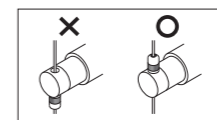

Fig.1
- Make sure the gripper is correctly aligned. Ceiling-mounted grippers should have the pin facing down, but all others will have the pin facing up. (Fig.1)